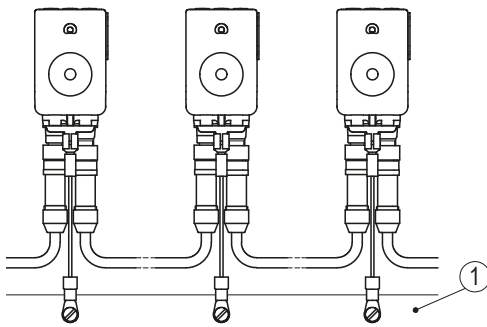

Fig. 5: Ground bar
For protection against interference, the screens of the signal lines and the power line must be connected on both sides. Potential differences cause inadmissible currents on the screen. Install the PE connection ③ onto the protective earth conductor potential between the plug connectors (see Fig. 4). Use 6.3 mm flat connectors with short strands 2.5 mm² ... 4 mm² (not in the scope of delivery). For multiple remote displays we recommend connecting the earthing to a ground bar ① (see Fig. 5).